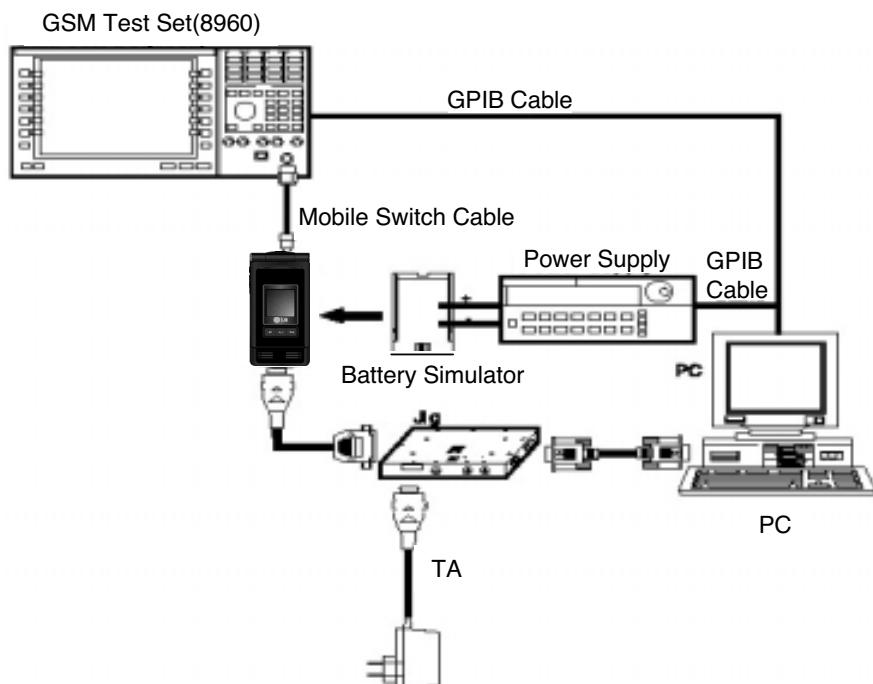

Figure 6-2. Equipment Setup
1. Connect as Fig 6-2(RS232 serial cable is connected between COM port of PC and MON port of TEST JIG, in general)